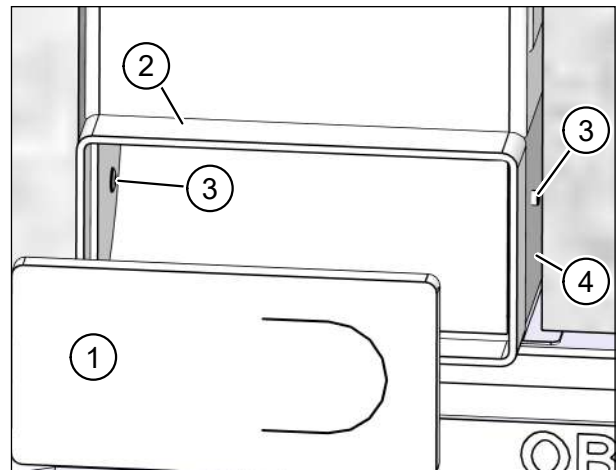

Fig. 24: Riveting the flexible pipe connection to the fixing plate
- ▶ Remove the protective cover for the flexible pipe connection (item 1 in Fig. 24).
- ▶ Use the riveter to fix the flexible pipe connection (item 2 in Fig. 24) to the fixing plate (item 4 in Fig. 24) with two blind rivets (item 3 in Fig. 24).
- ▶ Push the protective cover (item 1 in Fig. 24) back into the flexible pipe connection (item 2 in Fig. 24).